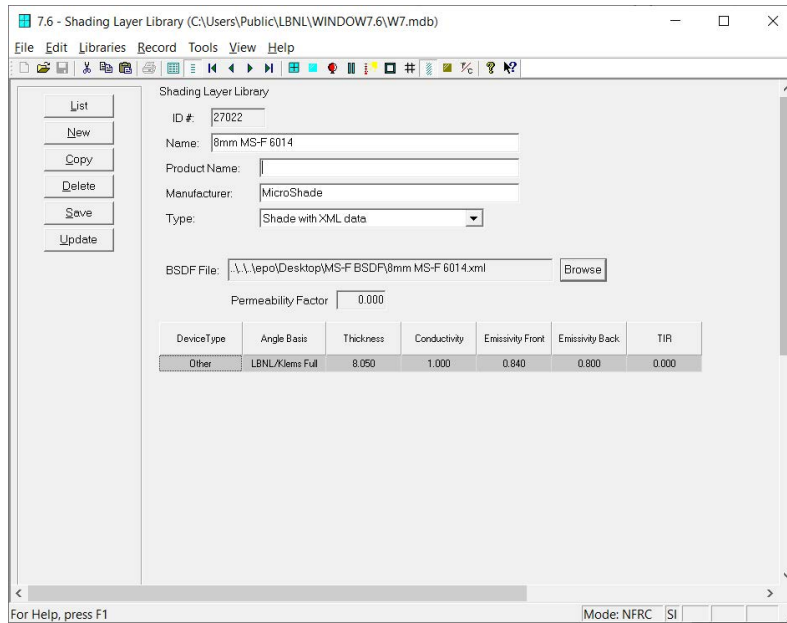

Figure 4: MicroShade[®] BSDF file has been imported.
- Click "Browse" and choose the MicroShade[®] BSDF file you want to import. Values will now appear in the table. See figure 4